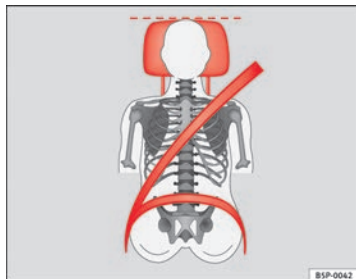
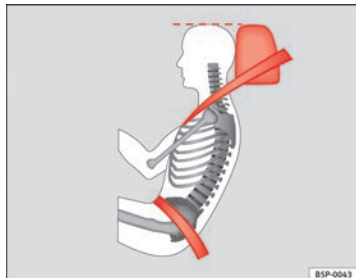

Fig. 3 Properly adjusted head restraint viewed from the front
Fig. 4 Properly adjusted head restraint viewed from the side
- Adjust the head restraint so that the top is at the same level as the top of your head or as close as possible to the same level as the top of your head, at least at eye level ⇒ fig. 3 and ⇒ fig. 4.